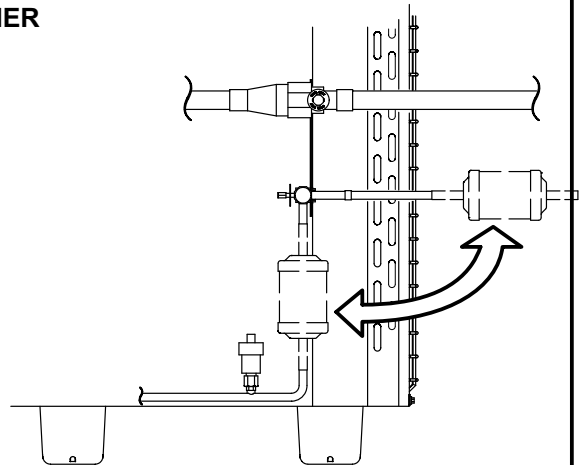

FIGURE 16
- 9- If pressure drop is greater than 4 psig replace filter drier. See figure 16.